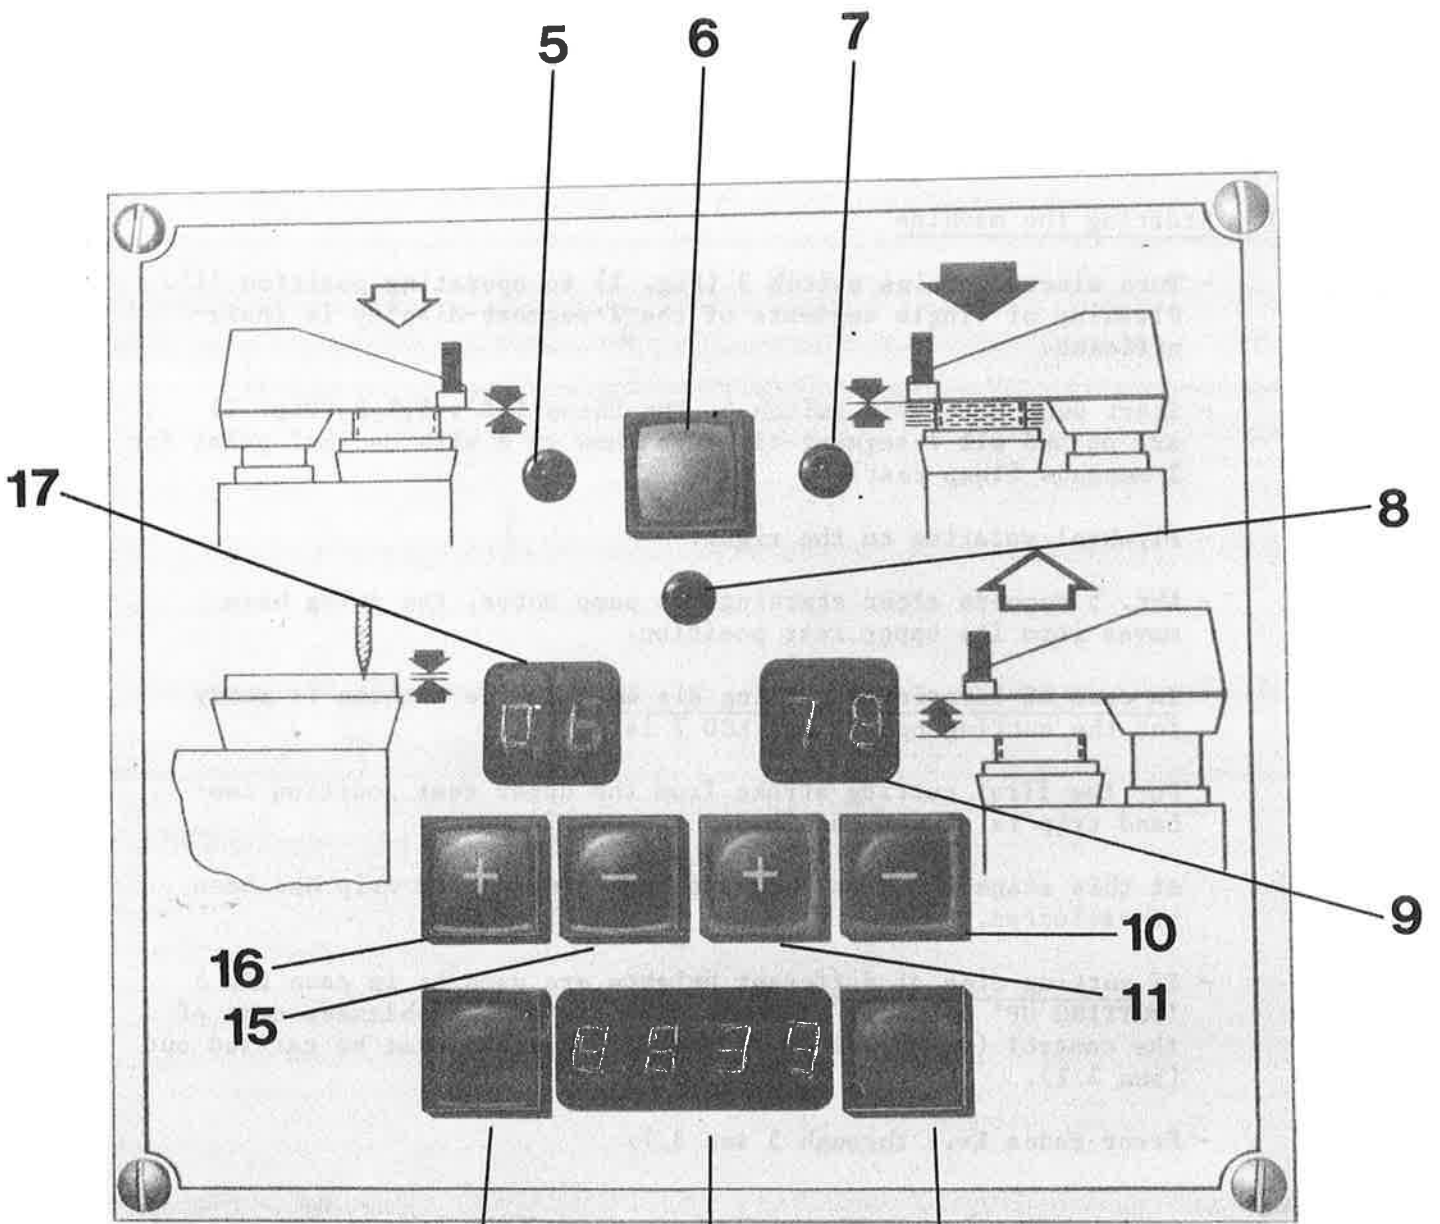

Fig.3
- Start pump motor via switch 4. The three LED's 5,7,8 (Fig. 3) are on and all 7-segment-displays show an 8 with decimal point for 3 seconds (lamp test).